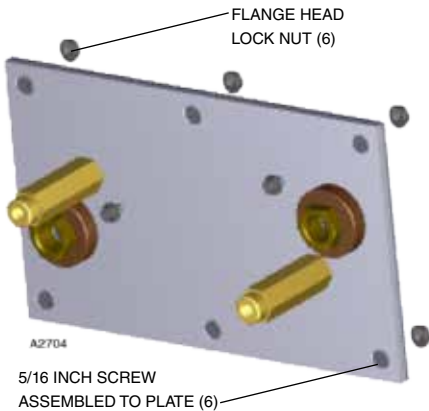

Figure 6—Q5016 Duct mount panel assembly and hardware
5. Remove the six lock nuts from the perimeter of the plate. The screws are threaded through the plate, and should remain in place (Figure 6).